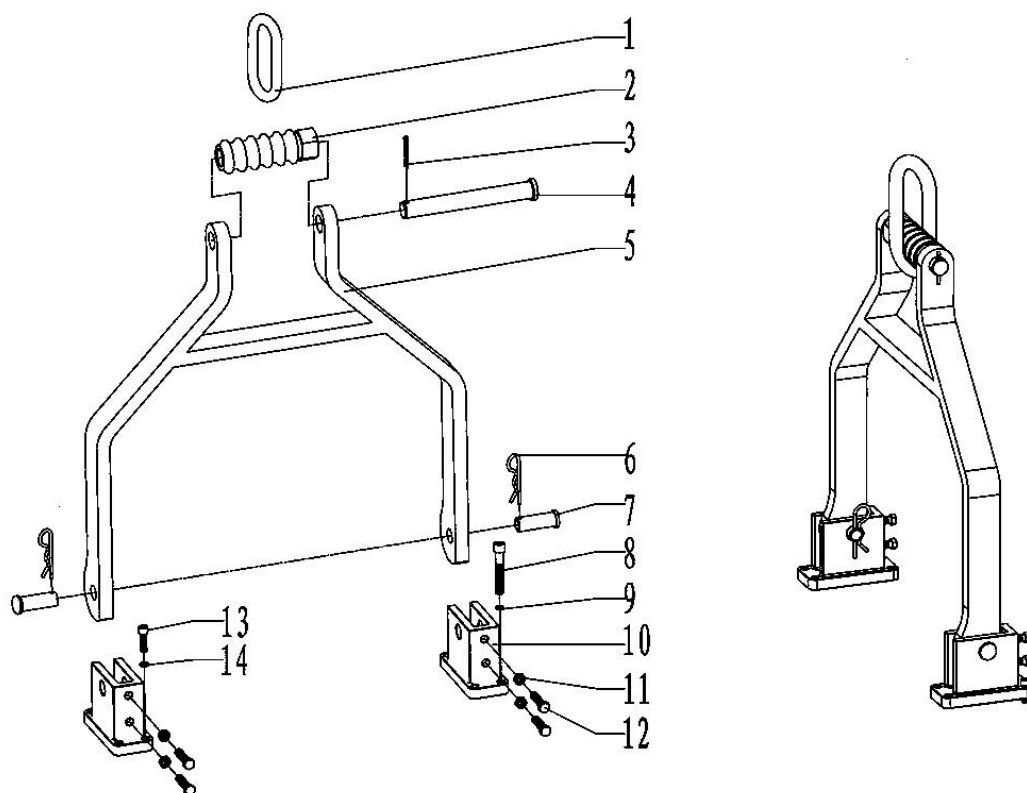

Fig. 20
7.1.13 Suspending rod assembly(Fig.20, Table.15)